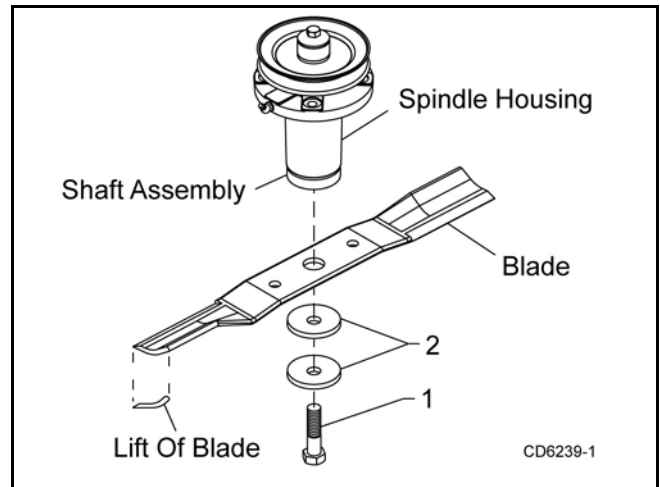

Figure 7. Blade and Spindle Assembly
1. Remove bolt (1), Figure 7, which has right hand threads.
- When installing blade, the lift of the blade must be toward the spindle blade housing as shown in Figure 7. Torque bolt (1) into shaft assembly to 100 lbs-ft.